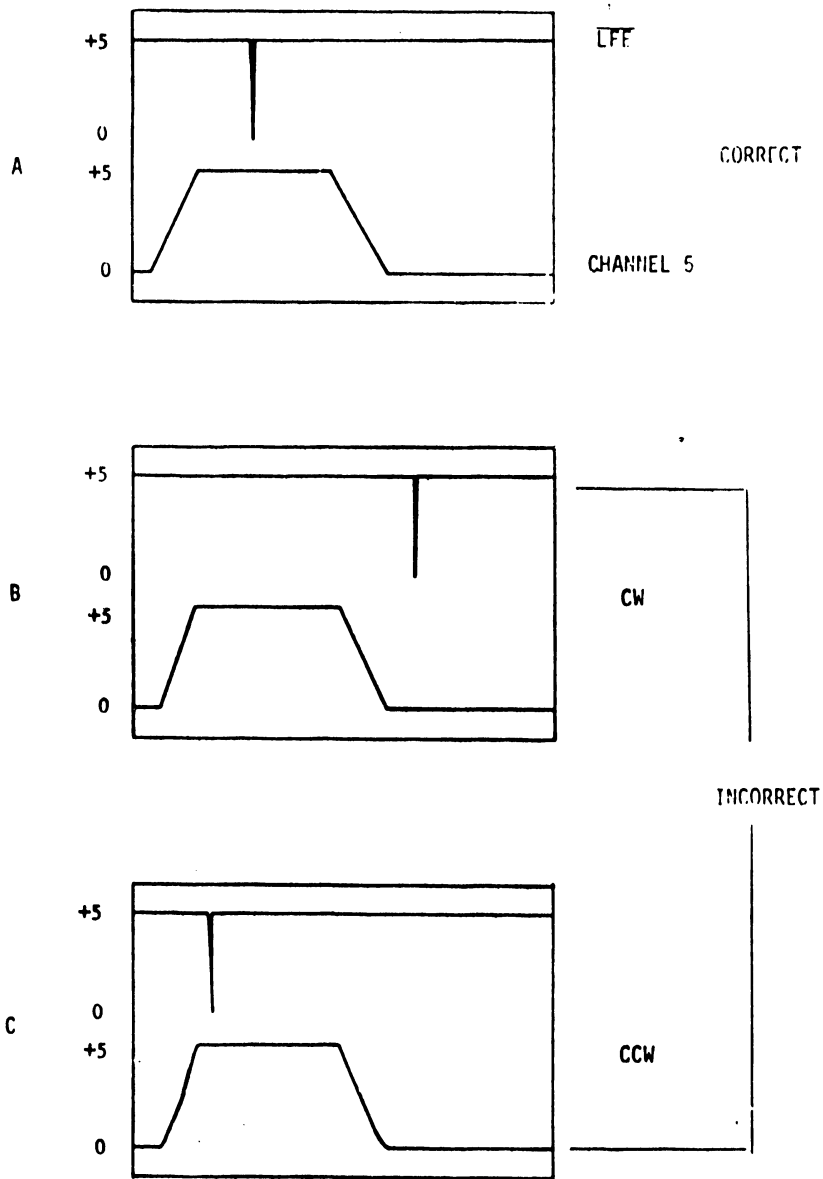

FIGURE 5-21 VFU AND STEPPER MOTOR PHASE CHECK
- 5) The stepping motor and VFU should be in phase. Connect a scope probe (channel 1) to pin R_1 of the 6577 and another probe to pin S_2 . Trigger on channel 1. Key Top of Form continuously. Channel 1 of the scope is the output of channel 5 of the VFU and channel 2 of the scope is the 8th step signal (\overline{LFE}) from the motor circuit. The 8 step pulse should appear just left of center of the VFU signal. See Figure 5-21. If signals are incorrect proceed to adjustment section step 7.